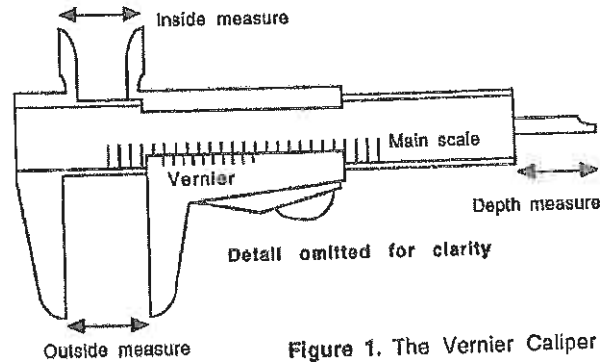

Figure 1. The Vernier Caliper
**Vernier Caliper:** The Vernier caliper is illustrated in **Figure 1**. This device has jaws for making inside, outside, or depth measurements. There are two scales on the caliper. The one scale is English and the other scale is metric. The instrument utilizes the Vernier principle to extend readability to 0.05 mm on the metric scale or 0.001" on the English scale.